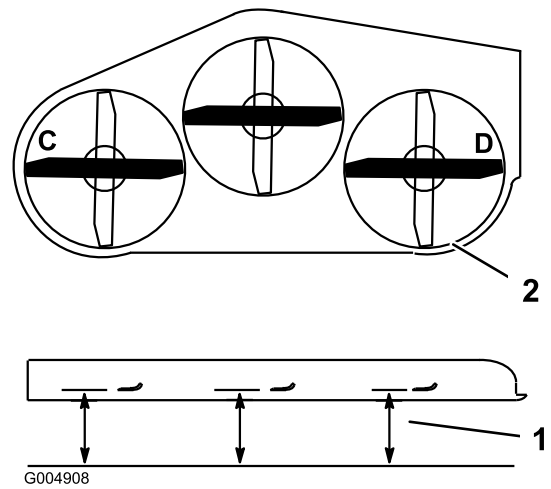
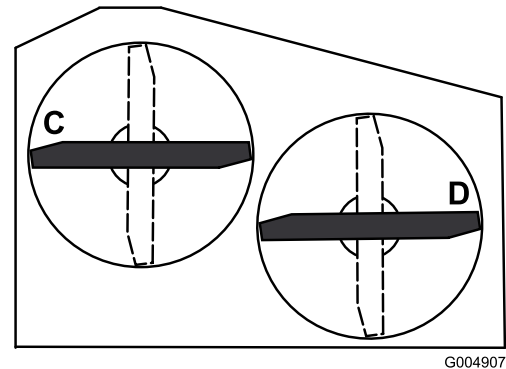

Figure 67
Figure 68
- Position the blades side-to-side. Measure at C and D locations from a level surface to the cutting edge of blade tips (Figure 67). For 36 inch mower decks use Figure 68.